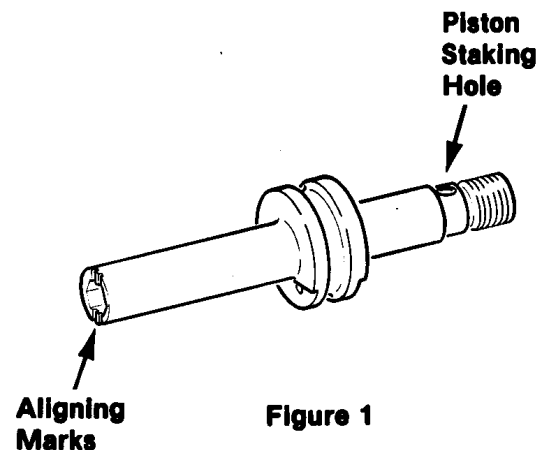

Figure 1
3. Observe position of piston staking holes in relation to marks on piston extension—marks are in line with staking holes, see Figure 1. Insert hex key in piston extension and rotate piston to align piston staking holes with cylinder staking holes.